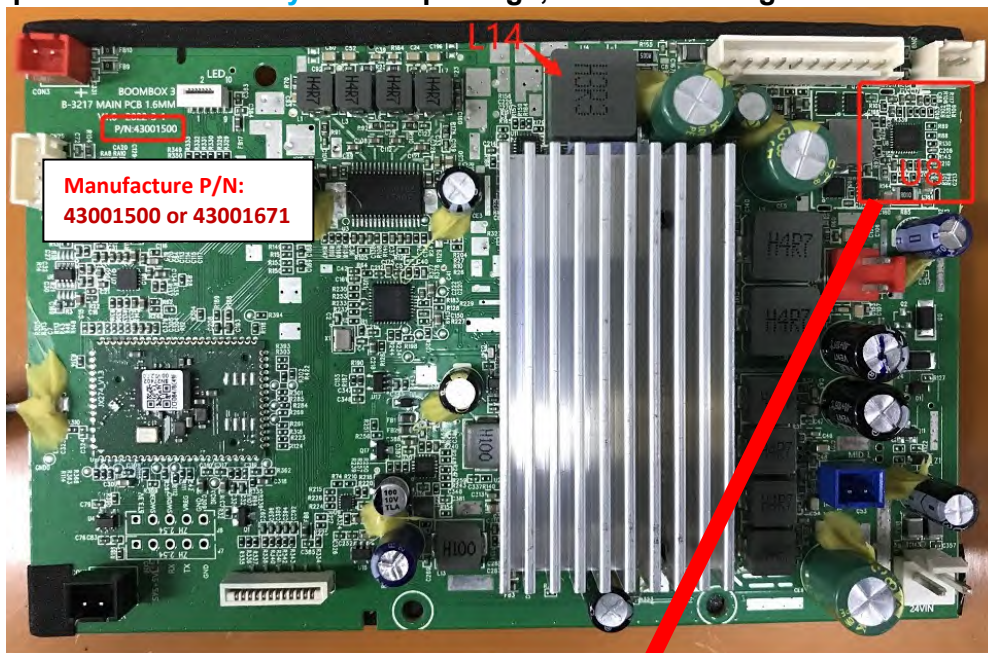

Fig. 1
---manufacture P/N on the PCBA: **43001500 or 43001671**, as shown in Fig. 1
---component L14: **H3R3**, as shown Fig. 1